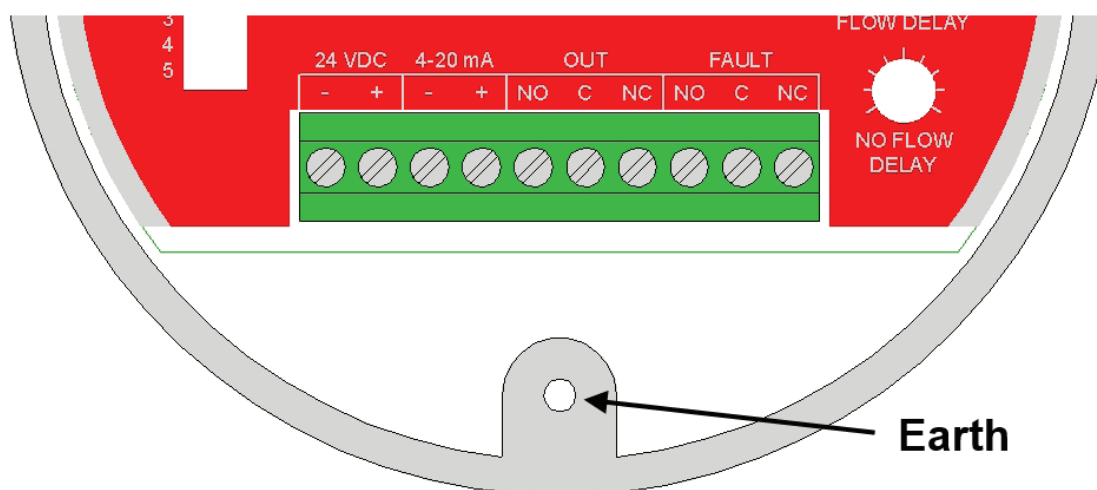

Figure 3
These terminals are accessible by unscrewing the enclosure cover. All wiring should be fed from the outside, through the conduit openings. Terminal labels are printed directly above the terminals on the control plate as seen in Figure 3.
The FD-2000 requires about 2.0 watts of power from a 24 VDC $\pm 10\%$ source. Refer to Figure 3 for location of these two terminals. Connect the negative of the 24 VDC power source to the far left terminal labeled with the minus sign. Connect the positive to the terminal labeled with the plus sign. A good earth should also be connected at the screw terminal on the inside of the enclosure.
This is a powered or active current output and can drive up to 650 ohms. Refer to Figure 3 for location of these two terminals. Connect the negative wire coming from the current receiver to the terminal labeled with the minus sign. Connect the positive wire coming from the current receiver to the terminal labeled with the plus sign.
Each of the OUT and FAULT terminals offer an SPDT relay which provides dry contacts for operation of external controls or equipment. Terminal connections are available for the common (C), the normally open (NO) and the normally closed contacts (NC). Refer to Figure 3 for location of these terminals. The relay contacts are rated for 2A at up to 250 VAC or 220 VDC.